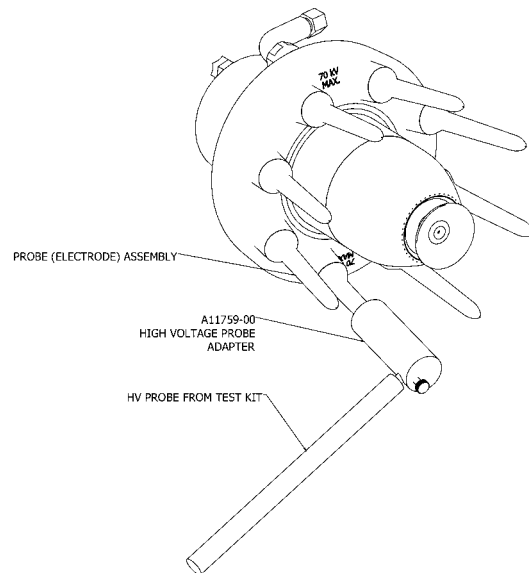

Figure 10: Electrode Test View
25. Place adapter over probe (electrode) assembly (see Figure 10).